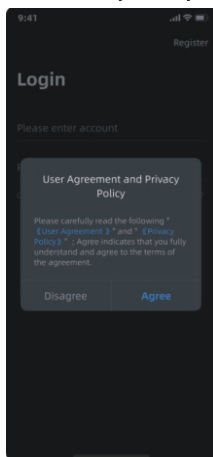

Figure 1
- 1) Figure 1: Unregistered users click on "**Register**" on the login page, Unregistered users click "Register" on the login page, read the agreement, click "Agree" and proceed to the next step.